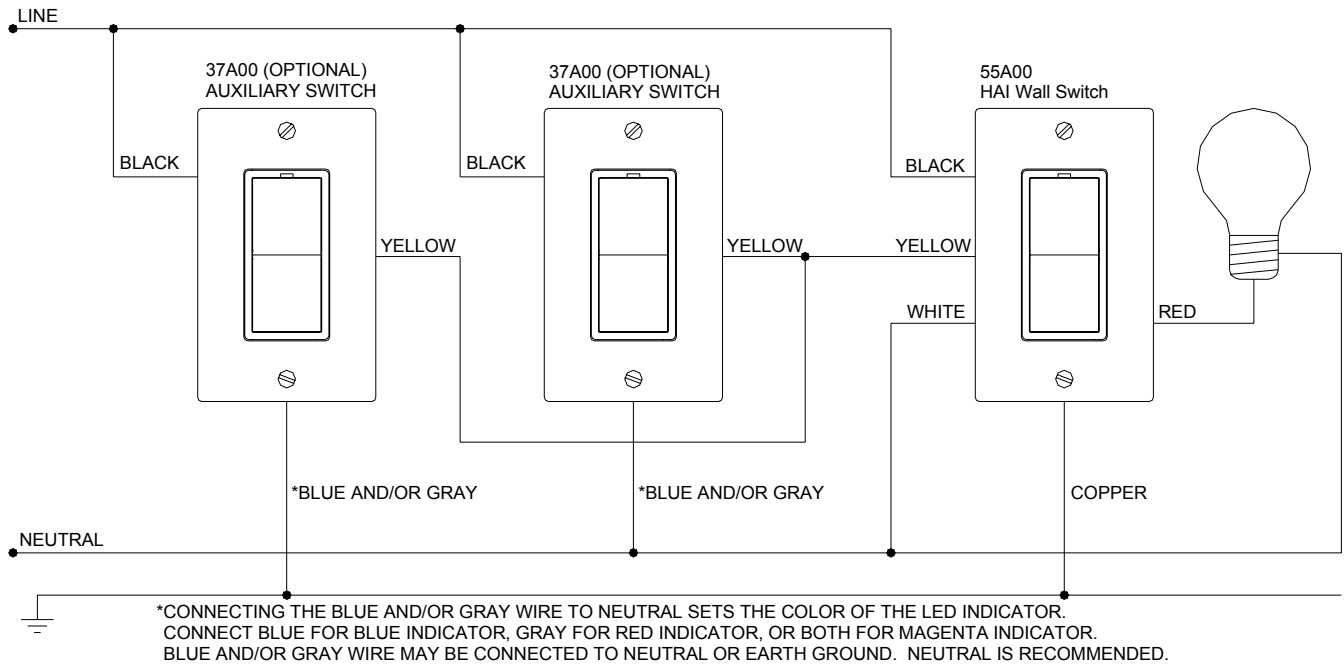

Figure 3: Wiring Diagram
4. Install the 5 connecting wires per wiring configuration shown in Figure 3.
5. Optionally install any HAI Auxiliary Switch per wiring configuration shown in Figure 3.